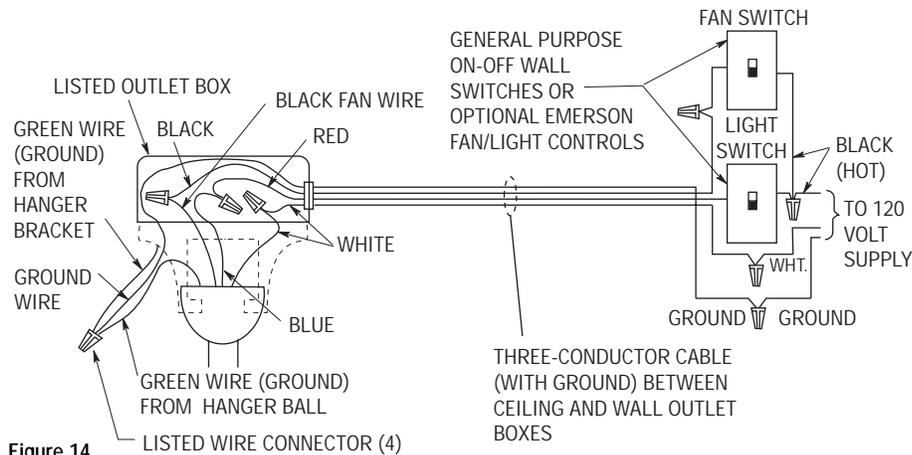

Figure 14
2. If you are going to control your fan using two wall switches or optional Emerson fan/light controls, you will need a three-wire (with ground) conductor cable between the ceiling and wall outlet boxes. This will allow you to operate the fan housing lights and an optional Emerson Light Fixture (if installed) from one switch/control and the ceiling fan from a separate switch. Refer to Figure 14 and proceed as follows: